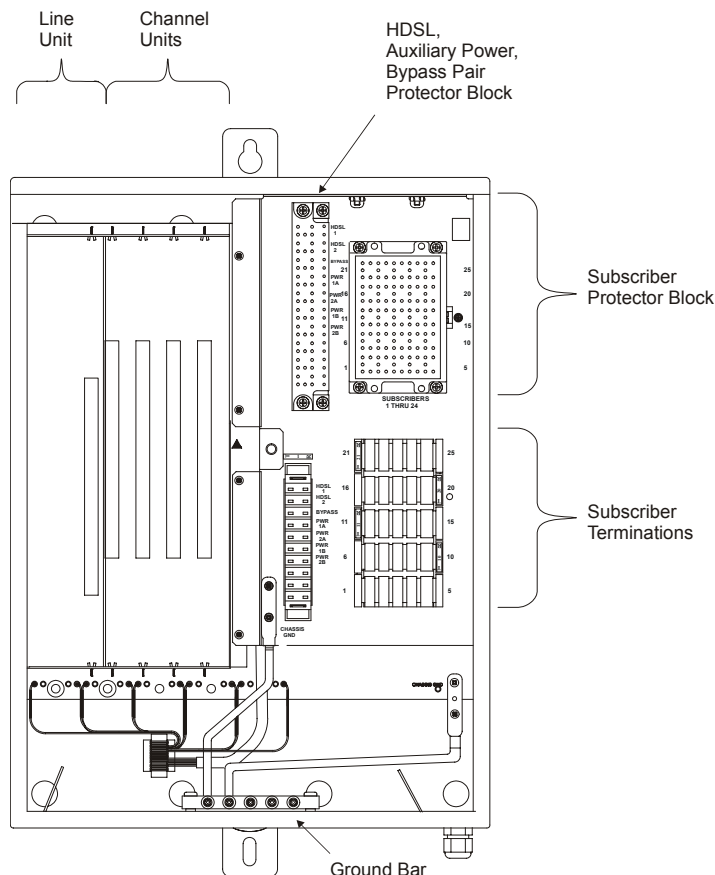

Figure 1. FRE-765 List 4A RT Enclosure (Interior View)
The PG-Flex® FRE-765 List 4A Remote Terminal (RT) Enclosure, see Figure 1, “FRE-765 List 4A RT Enclosure \(Interior View\),” on page 1, provides convenient mounting of one RT Line Unit and up to three Channel Units, supporting up to 24 channels. The enclosure provides termination points for subscriber circuits, High bit-rate Digital Subscriber Line (HDSL), power, and metallic bypass pairs. For each doubler, two auxiliary power pairs must be provided between the Central Office Terminal (COT) shelf and the RT. The enclosure can be pole or wall mounted and is environmentally sealed for outside plant installations.